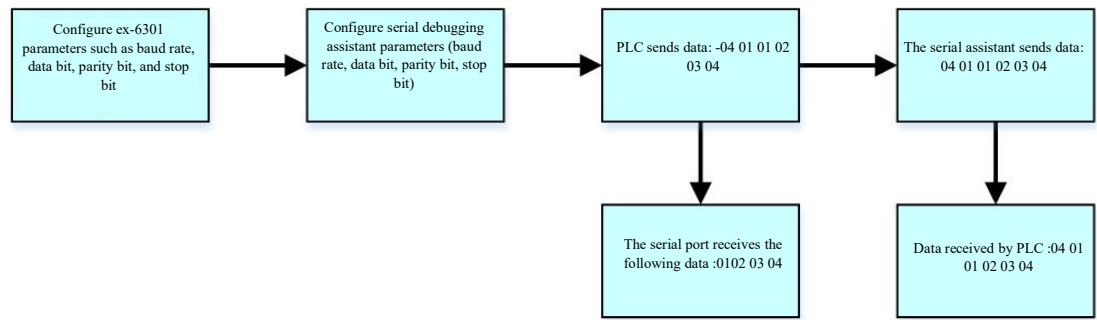

Figure 6-3-7 Usage process
(4) Master station recovery control word D7 D6=00;
- Figure 6-3-7 shows the process for using the EX-6301 with the serial port Debugging Assistant.